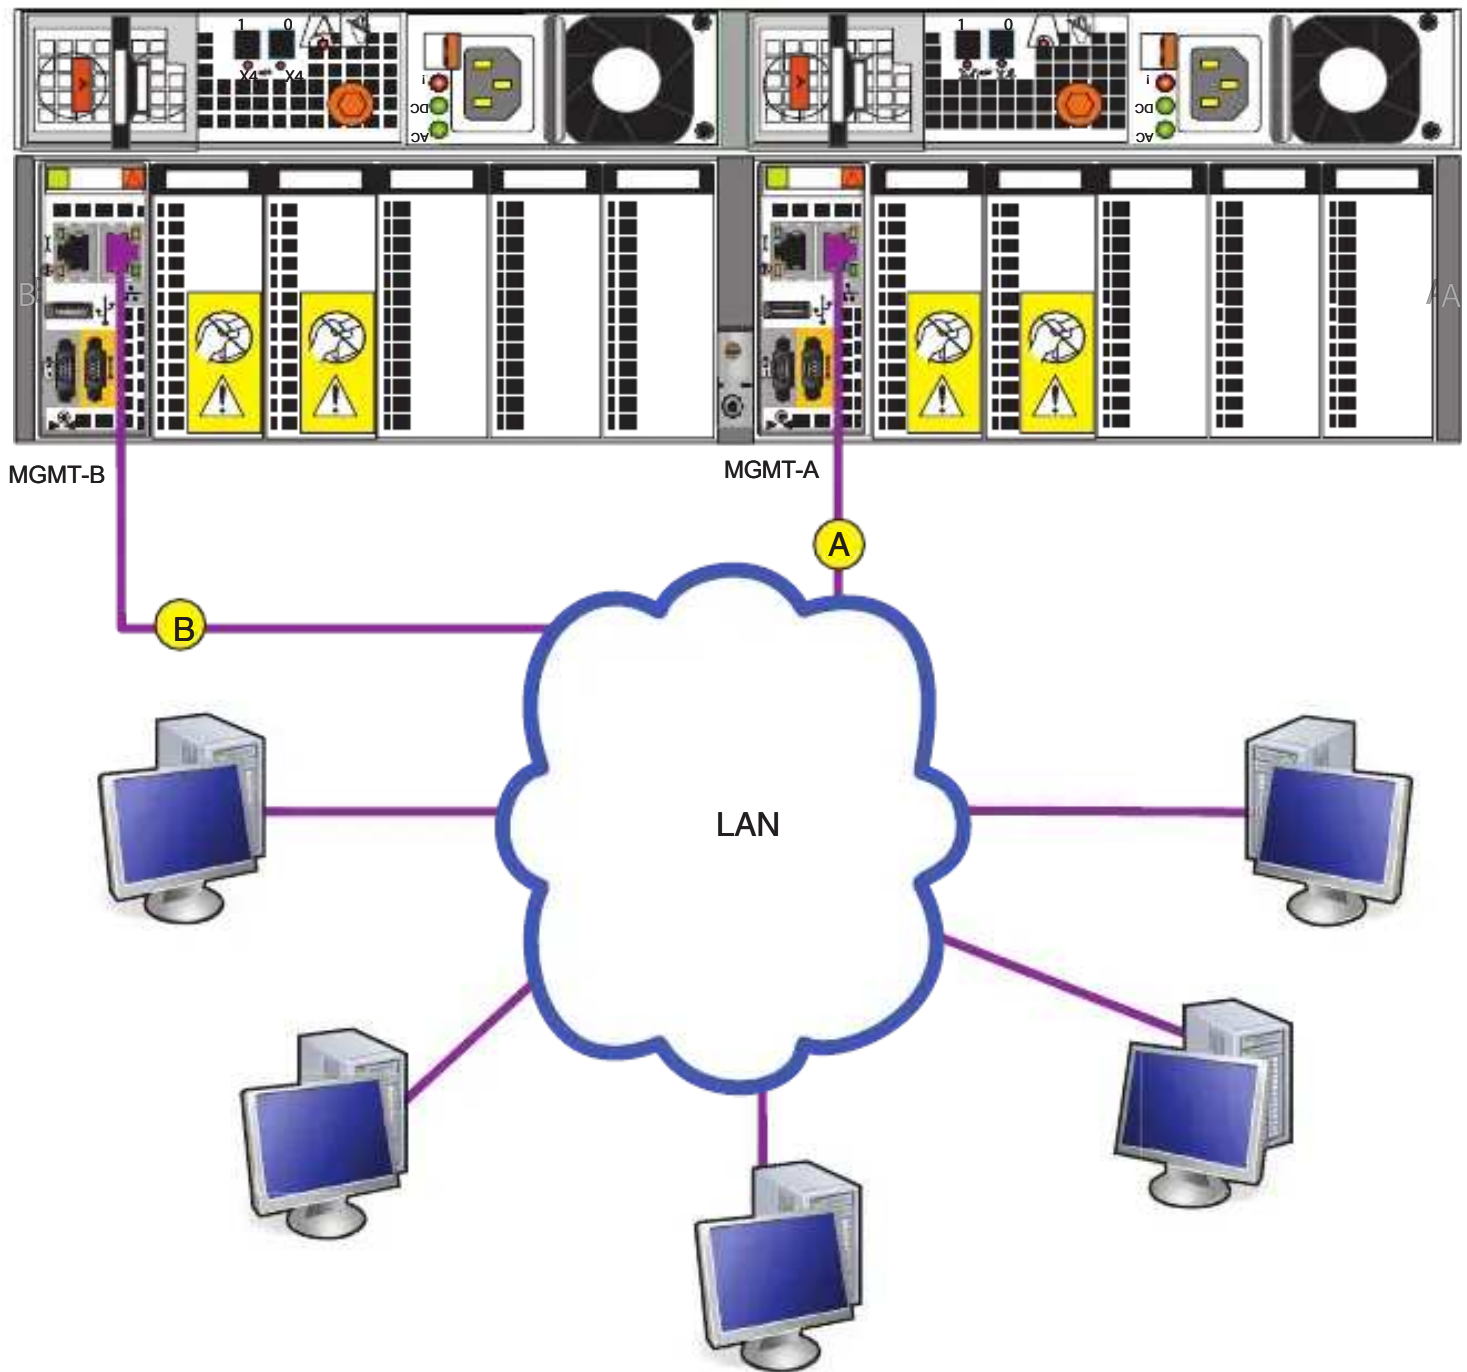

Figure 9 Attaching the SPs to the network
2. Connect your public LAN using a CAT 5e or better (customer-supplied) Ethernet cable to the RJ45 port on SP A identified as . See cable A in Figure 9 on page 20.
3. Connect your public LAN using a CAT 5e or better (customer-supplied) Ethernet cable to the RJ45 port on SP B identified as . See cable B in Figure 9 on page 20.